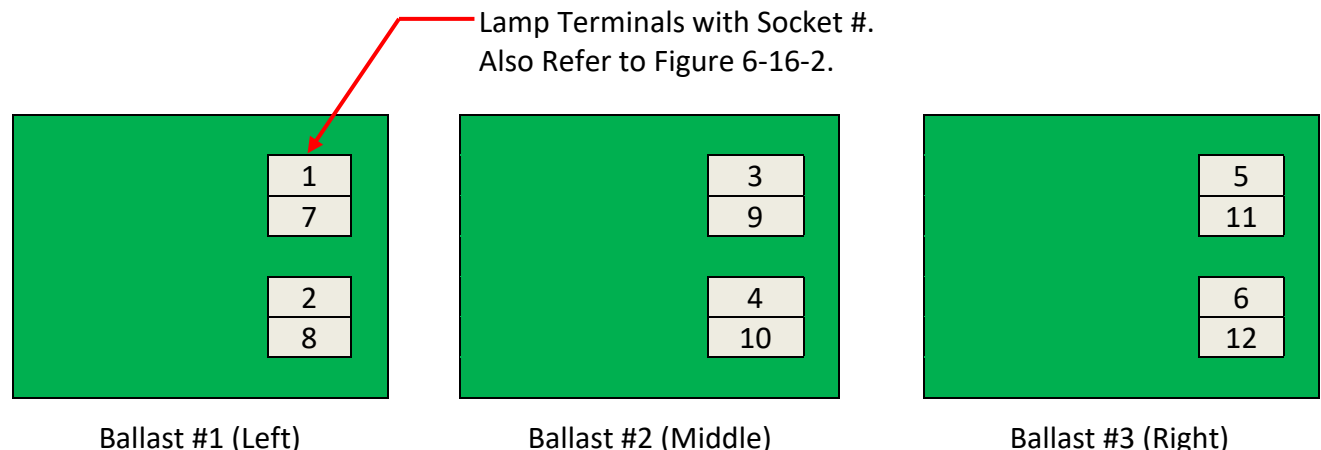

Figure 6-17-2
19. Using Figure 6-17-2 as a guide, rout all the wires over to the appropriate terminal.